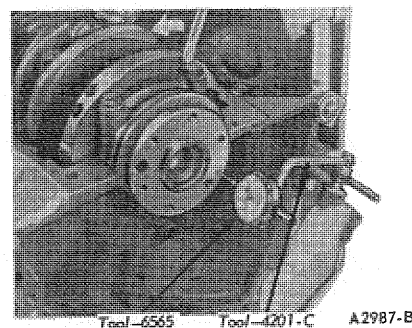

FIG. 11 Checking Crankshaft End Play
2. Install a dial indicator so that the contact point rests against the crankshaft flange and the indicator axis is parallel to the crankshaft axis (Figure 11).